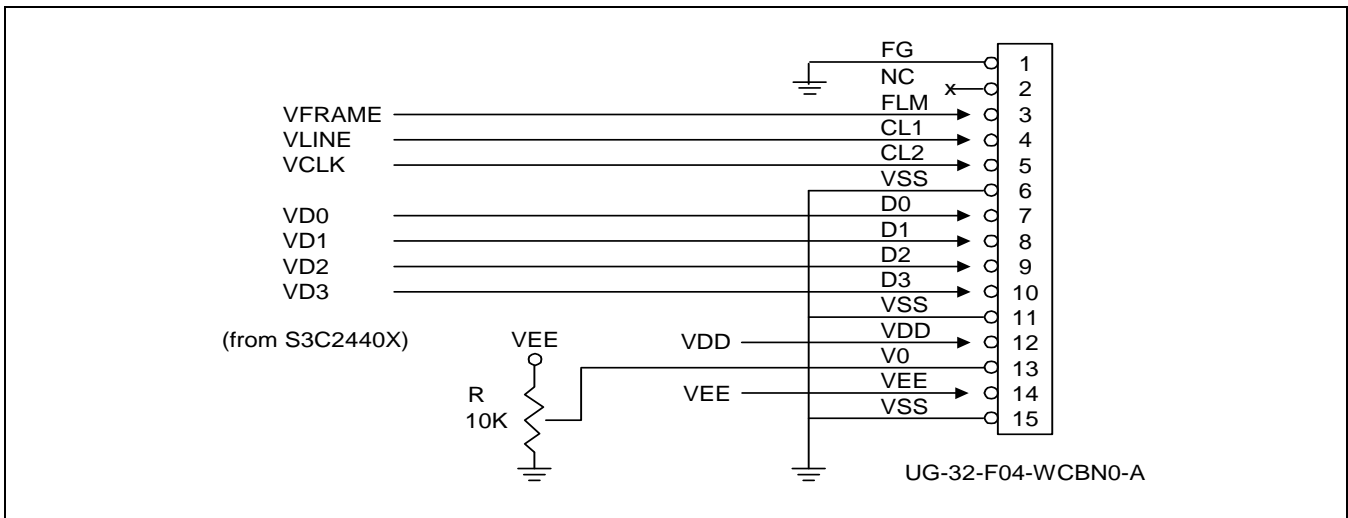

Figure 4-15. UG-32F04 Connection with S3C2440A (320x240 Mono STN LCD)
- UG-24U03A (320x240 mono STN LCD) from SAMSUNG DISPLAY DEVICES CO., LTD. (refer to Figure 4-15)